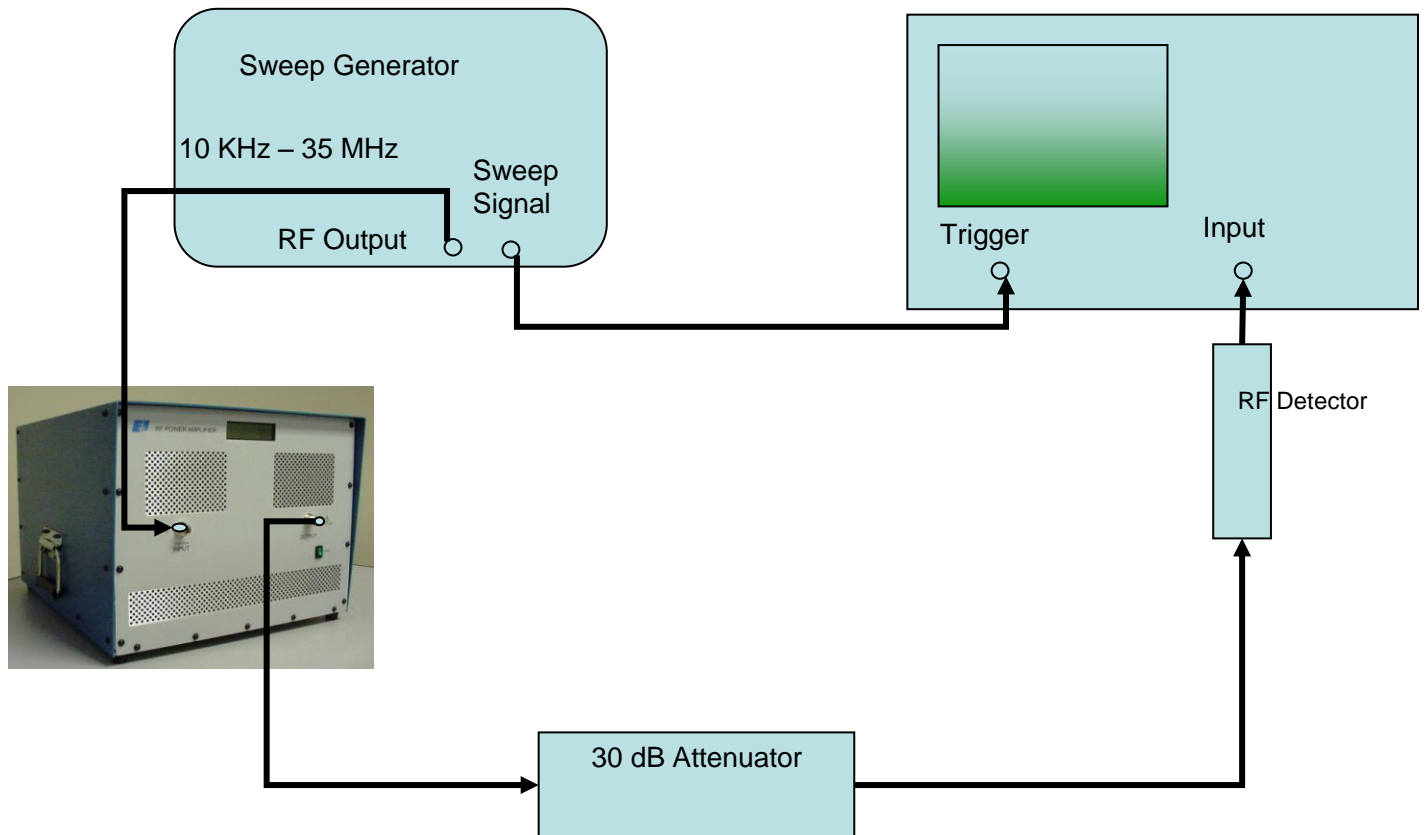

Figure 4-1. Gain Measurement
2. Connect the equipment as shown in Figure 4-1, then proceed as follows:
- g) Reconnect the A300 into the test set-up of Figure 4-1.